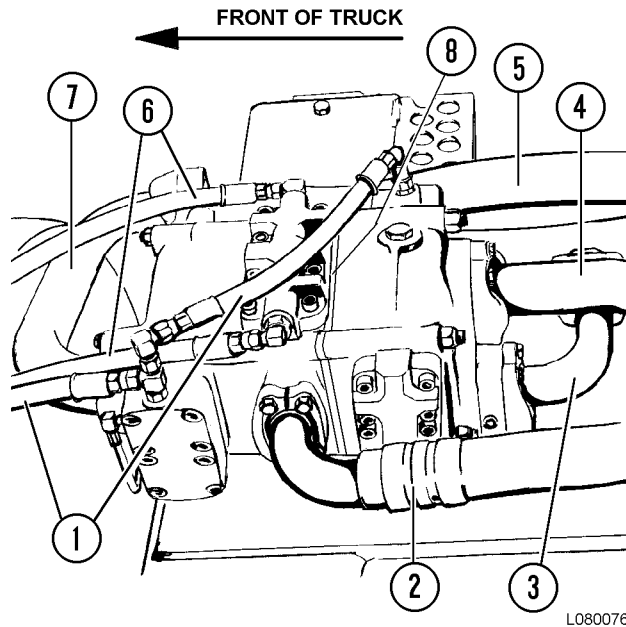

FIGURE 8-1. HOIST VALVE INSTALLATION
3. Disconnect and cap or plug all line connections to help prevent hydraulic oil contamination, refer to Figure 8-1.
1. Attach a suitable lifting device to the hoist valve. Move the hoist valve into position with the separator plate (8, Figure 8-1) located to the rear. Secure in place with cap screws, nuts and lockwashers. Tighten cap screws to standard torque.
Note: Be certain hoist valve assembly is positioned with separator plate (8, Figure 8-1) towards rear of truck when valve is lowered onto mounting plate.
2. Using new O-rings at the flange fittings, connect hydraulic lines. Tighten flange cap screws to standard torque. Refer to Figure 8-1 for hydraulic line location.